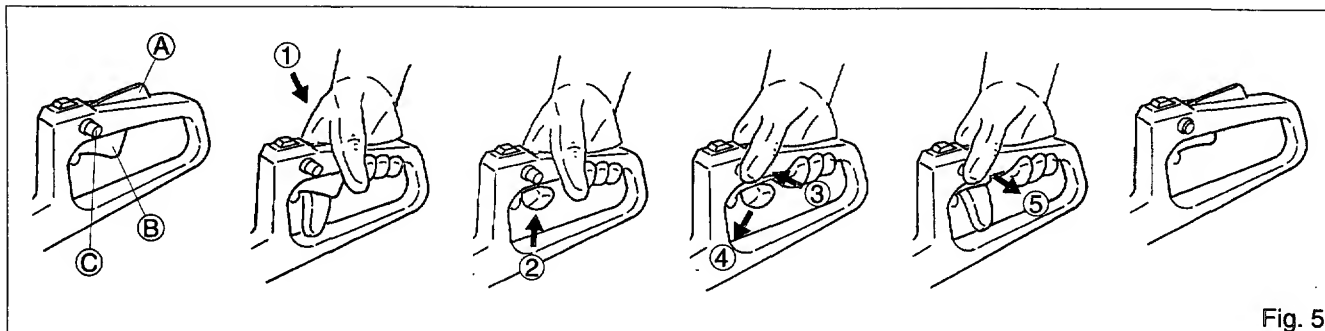

Fig. 5
2. Starting (Fig. 5 ~ 9)
1. Procedure to set the throttle lock (Fig. 5)
2. Mise en marche (Fig. 5 ~ 9)